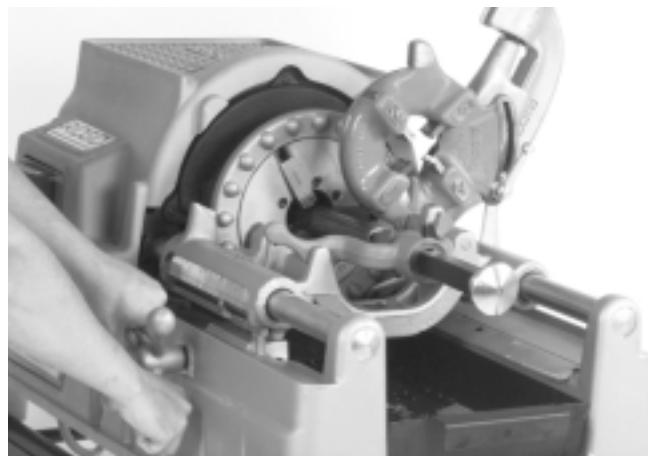

Figure 7 – Reaming with 341 Reamer
- Position reamer into pipe and complete reaming by exerting pressure on handwheel. (Figure 7)